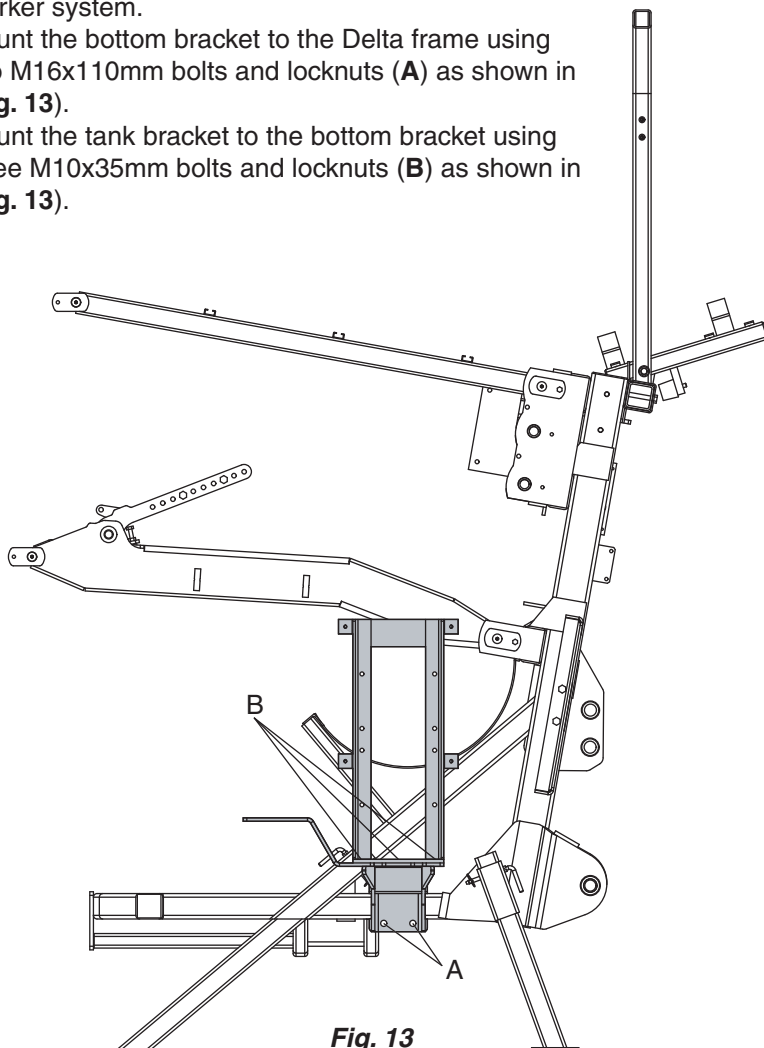

Fig. 13
2. Mount the bottom bracket to the Delta frame using two M16x110mm bolts and locknuts (**A**) as shown in (**Fig. 13**).
3. Mount the tank bracket to the bottom bracket using three M10x35mm bolts and locknuts (**B**) as shown in (**Fig. 13**).